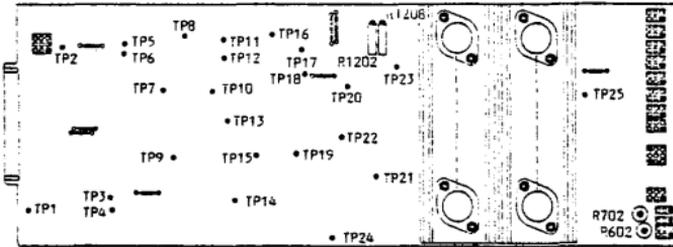
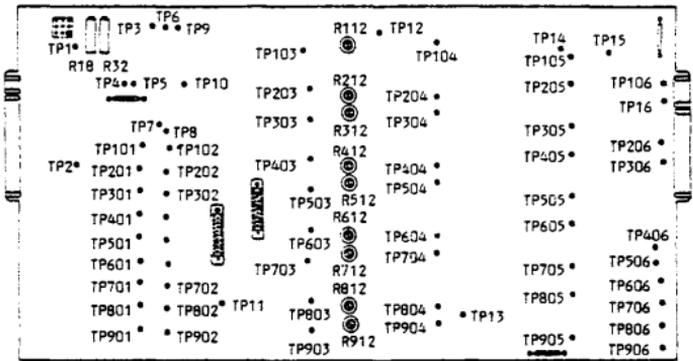
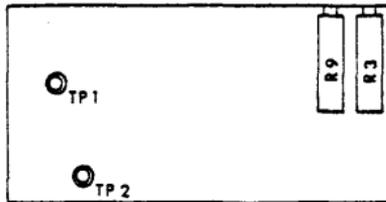

FIGURE 9
FIGURE 10
FIGURE 11
The +5V and -5V regulators are located on the Tape Control B1 Board (see Figure 9).
- If the voltage in the previous step did not fall within the specified limits, adjust R1208 on the Tape Control B1 Board (Figure 9) to -5V as seen on TP23.
- Using a DVM, connect the probes to TP11 (ground) on the Data C9 Board (Figure 10) and TP1 on the EOT/BOT Amp Board (see Figure 11).
- Connect the scope probes to TP11 (ground) on the Data C9 Board (Figure 10) and TP18 on the Tape Control B1 Board (Figure 9).
- If the wave form does not meet the values as stated above, adjust R1113 on the Tape Control B1 Board (Figure 9) until it is corrected.
- Connect the scope probes to TP11 (ground) and TP603 on the Data C9 Board (refer to Figure 10).
- If the wave form does not meet the above value adjust R1501 on the Tape Control B1 Board (Figure 9) until .1 ms between peaks is obtained.
- Connect the scope probes to TP11 (ground) on the Data C9 Board (Figure 10) and the following test points, depending upon which drive is being adjusted:
- Connect the scope probes to TP11 (ground) and TP10 on the Data C9 Board (Figure 10).
- While the tape is writing and On Line, connect the scope probes to TP11 (ground) and TP15 on the Data C9 Board (Figure 10).